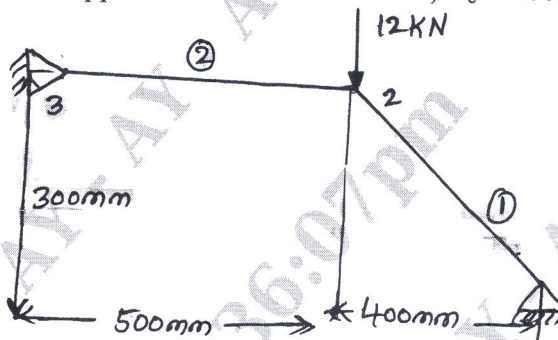

Fig Q6(b)
b. For the two bar truss shown in Fig Q6(b), determine the nodal displacement, stress in each element and reaction at the support. Take $E = 2 \times 10^5 \text{ MPa}$, $A_e = 200 \text{ mm}^2$.